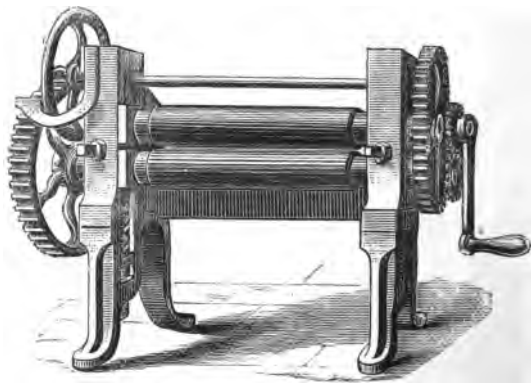

Fig. 69.—LEATHER SPLITTING MACHINE.
**Leather Splitting Machine.**—On contrasting this machine (Fig. 69) with the Upper Leather Splitter, it